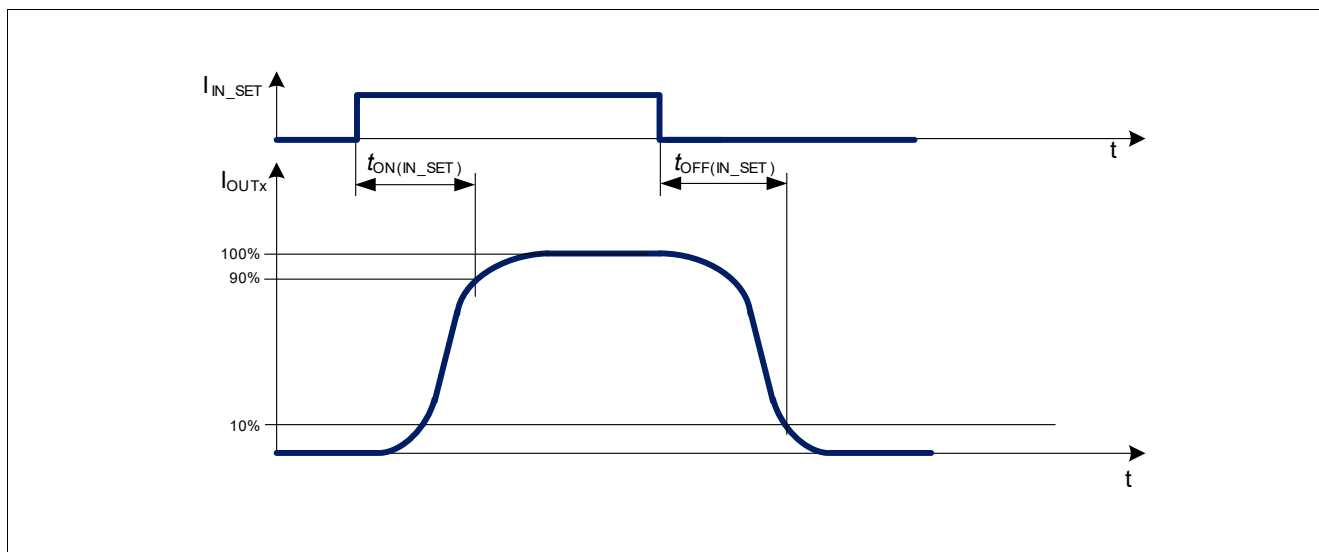
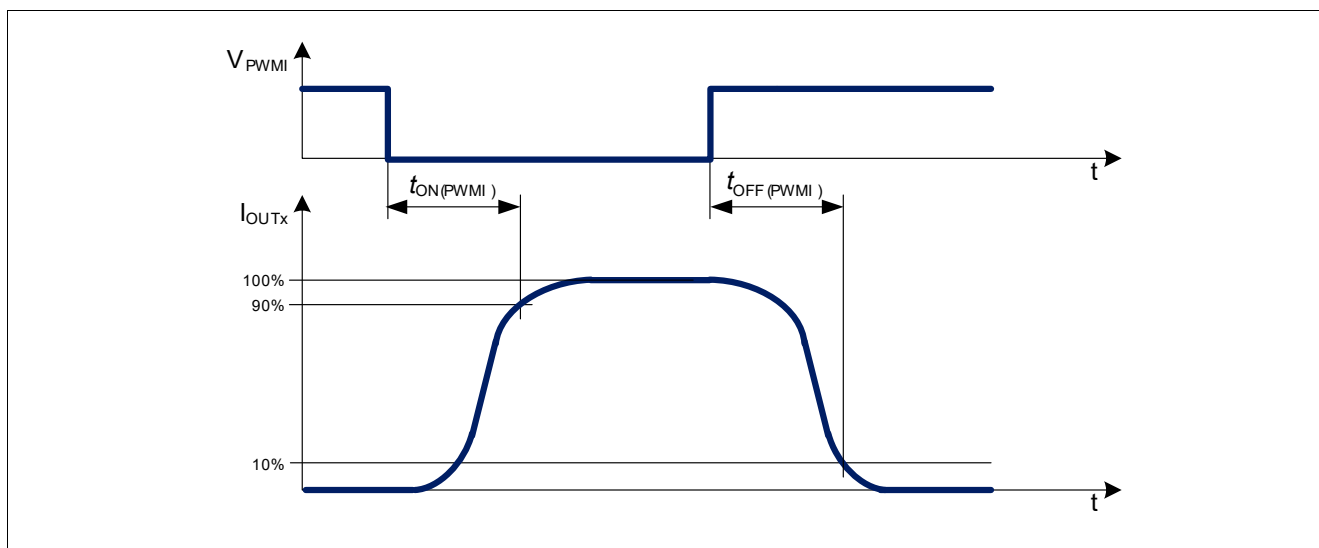

Figure 12 IN_SET turn on and turn off delay timing diagram
Figure 14 PWMI turn on and turn off timing diagram
In the following diagrams (Figure 12, Figure 14) the influences of different driving inputs on output activation delays are shown.
2) Refer to Figure 12
4) Refer to Figure 14